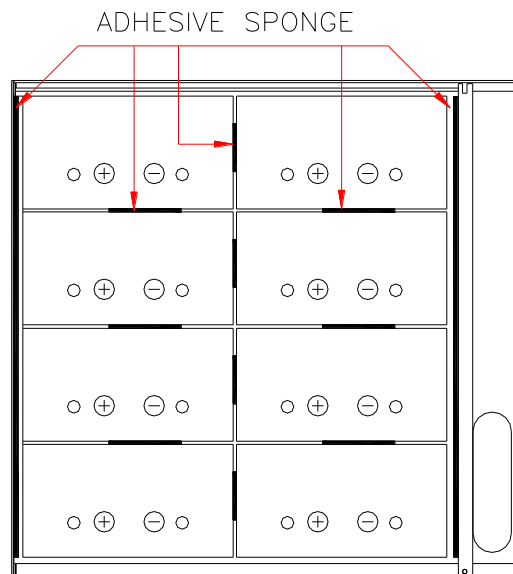

Fig.2
- Position the batteries, starting from the bottom upwards, as indicated in Fig.2, blocking them to the right with the bracket supplied.
- The supplied 10 cm adhesive sponge must be put on the batteries, as indicated in Fig.2, before batteries can be positioned.